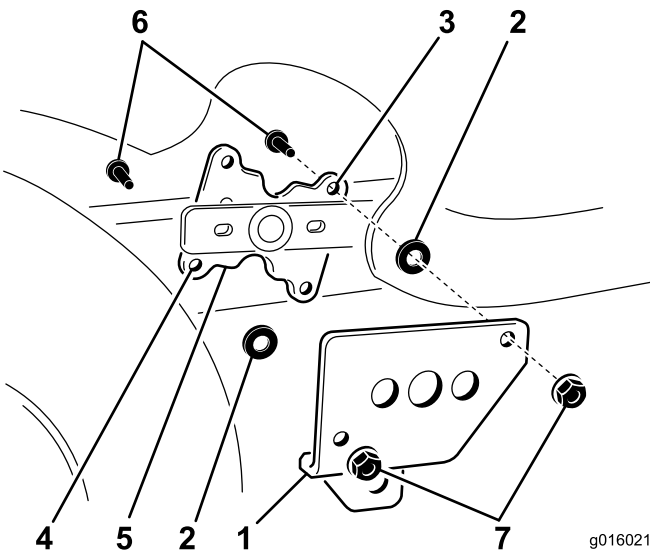

Figure 4
5. Install two spacers covering the upper and lower holes in the lift lever face and the offset foot lift plate over the lift lever arm assembly (Figure 4). Install two bolts (5/16 x 1-1/4 inches) the holes in the lift plate, the spacers and lift lever face. Secure the entire assembly with the two lock nuts (5/16 inch).